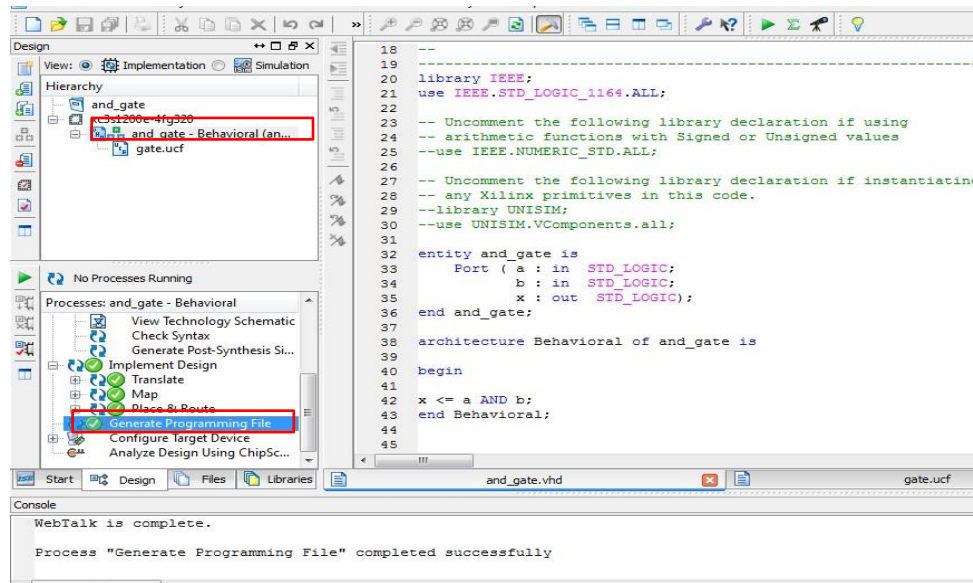

Figure 16: Generate the Programming File
- The next step in the process is to have the Xilinx ISE create a programming file of the design. This is done by clicking once on your top-level design in the Sources Pane, followed by a double click on **“Generate Programming File”** in the process window (figure 16). Now the programming file (bitstream file) of extension “.bit” has been generated, it is time to load your design into the FPGA, and test it out. This can be done in many ways depending on your available equipment and preferences.